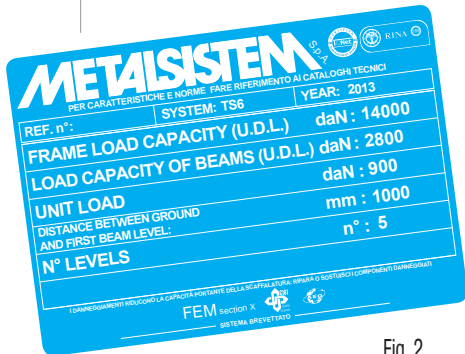

Fig. 2
- Load bearing capacity plaque formatted as an information sign. These must be placed in clearly visible locations showing year of assembly, frame series and load bearing capacity, beam pair load or shelf load bearing capacity (uniformly distributed load), load unit, height of the first beam from ground and the number of levels (Fig. 2);